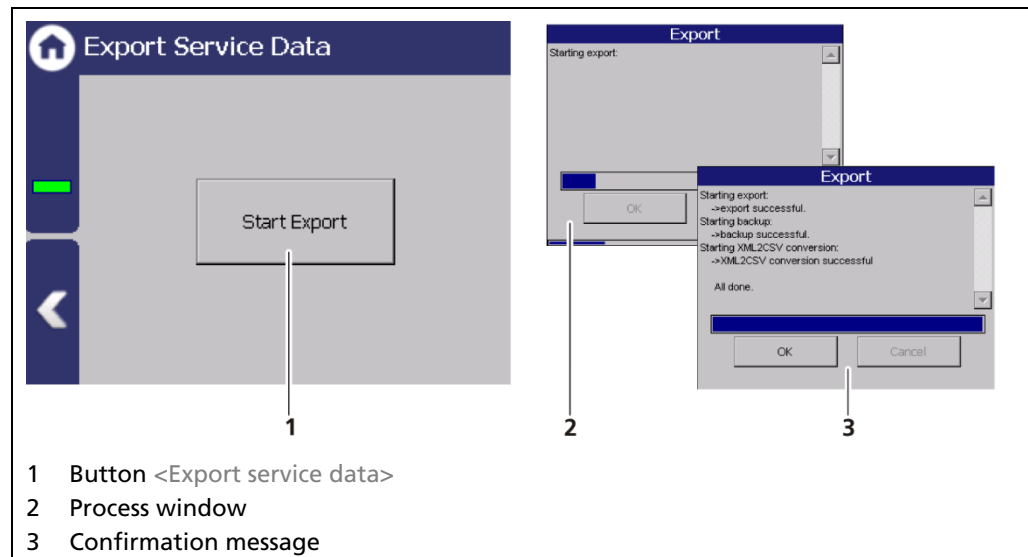

Fig. 128 Export Service Data
2. The USB storage device is recognized by the system after a few seconds and the button <Start Export> (Fig. 128, item 1) can be clicked.
- ▶ The process window is displayed and the export of service data will be carried out (Fig. 128, item 2).
- ▶ After successful export a confirmation message Fig. 128, item 3) is displayed.